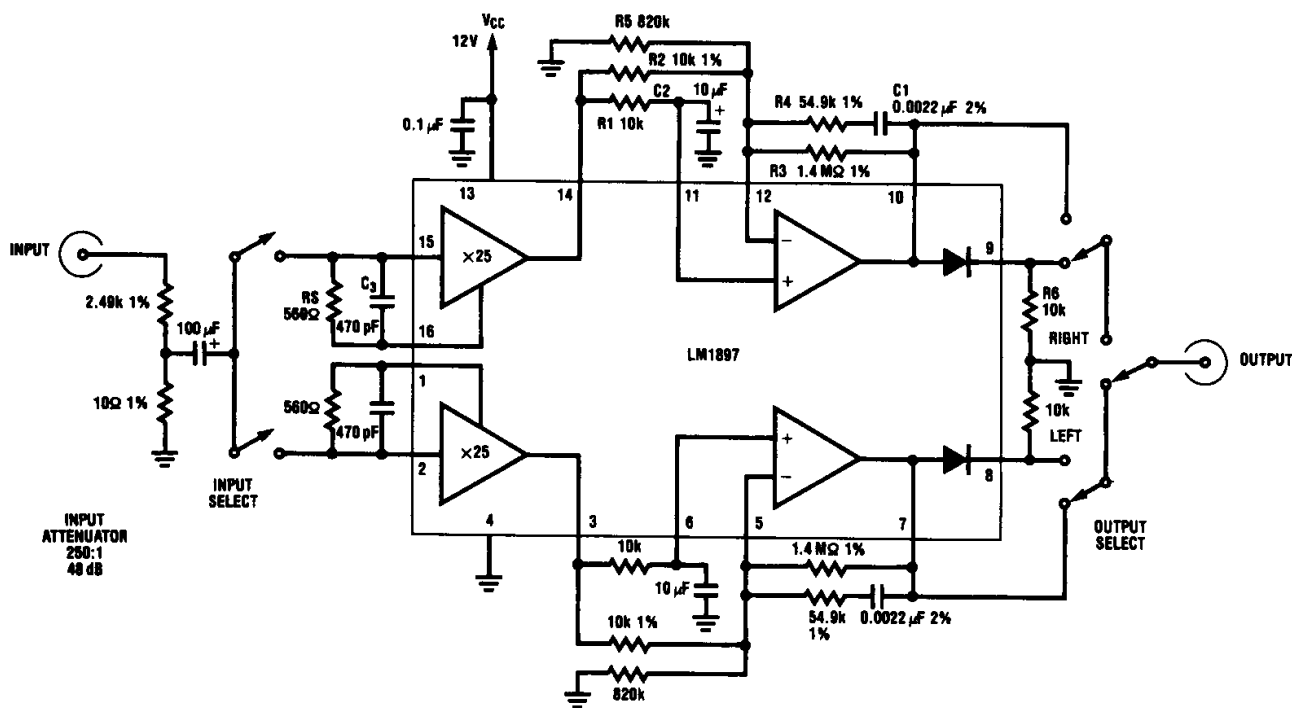

FIGURE 2. General Test Circuit
## Electrical Characteristics (TA = 25°C, VCC = 12V, See Circuit—Figure 2)
| Total Harmonic Distortion      | f = 1 kHz, V IN = 0.3 mV, Pins 7 & 10, Figure 2 |                               | 0.03 |       | %     |                 |
| THD + Noise (Note 2)           | f = 1 kHz, V OUT = 1V, Pins 7 & 10, Figure 2    |                               | 0.10 | 0.25  | %     |                 |
**Note 3:** The numbers are referred to an output level of 160 mV at Pins 7 and 10 using the circuit of Figure 2. This corresponds to an input level of 0.3 mV RMS at 333 Hz.